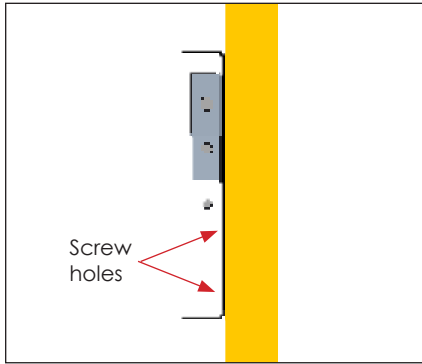

Figure 2: C-Clip Detail
- 2. Place a seismic screw in one of the bottom two holes. The upper hole provides the clip with symmetry but is not used for attachment. Tighten the screw through the C-clip. Refer to **Figure 2**.